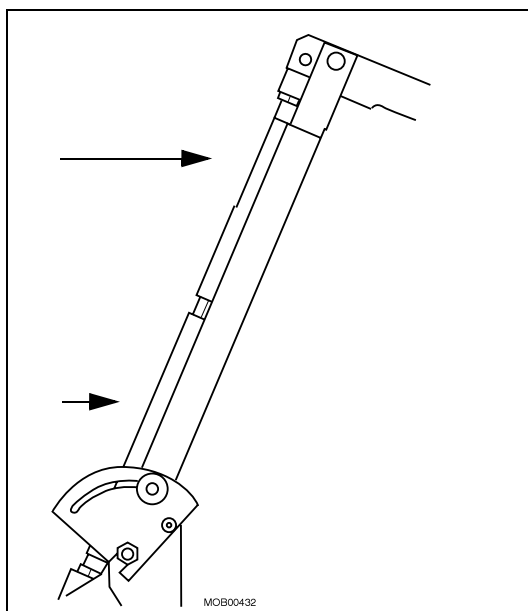

Fig. 43: Measuring rod
- Measure at two points that are as far apart as possible (ensure that the test points have the same diameter at the adjusting rod) (Fig. 43 / p. 54). The parallelism may not deviate  $> 0.6$  mm.